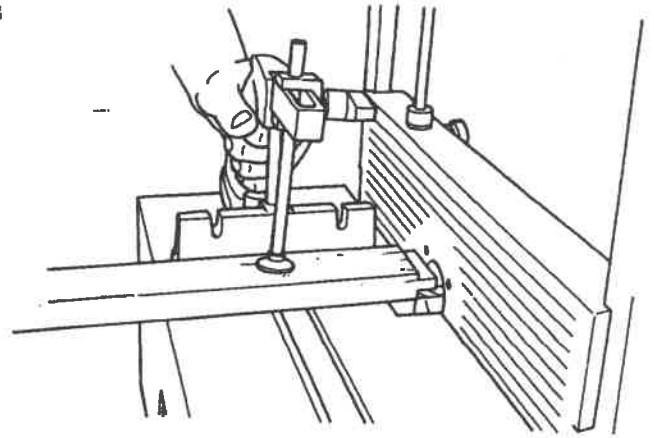

Fig. C-21
14. Turn on the Dust Collector and router and make the cut. This form the bottom shoulder of the tenon. If there is any wood remaining on the bottom side, lower the bit 2 or more turns to clean up the cut. See Fig. C-21.